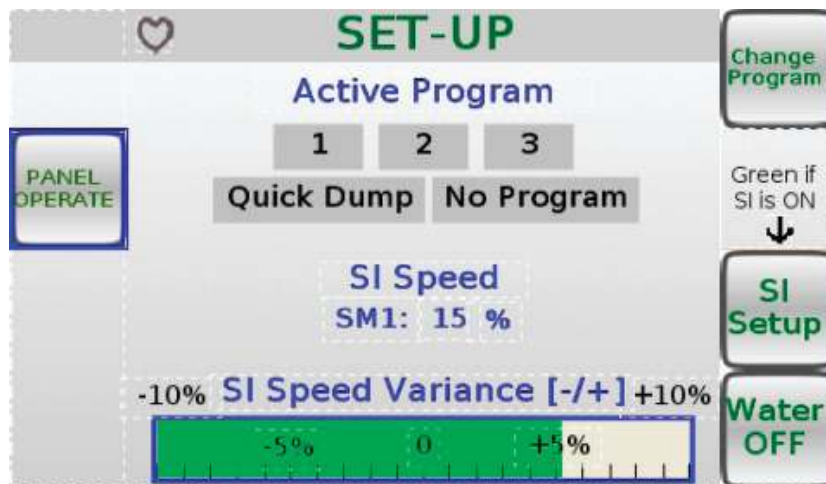

Figure 8
The PANEL OPERATE menu screen can be accessed by pressing the PANEL OPERATE button while in the SET-UP menu screen (see Figure 8). Seed Injection (SI) Speed Variance can be changed in the SET-UP menu screen. Turn the control knob located on the Main Control Panel to either the left or right to decrease or increase the SI Speed Variance. To turn the water control ON or OFF, press the Water ON/OFF toggle button while in the SET-UP menu screen (see Figure 8).
To change your Seed Injection (SI) settings (if equipped), you will need to access the SI menu screen. To access the SI menu screen, you will need to press the SI Setup button, located in the bottom-right of the SET-UP menu screen (see Figure 8). The control knob can be used to change any of the SEED MIX settings (see Figure 11). Turn the knob either left or right to highlight the setting you want to change. Once you have highlighted the setting you want to change, press in on the control knob. After pressing in on the control knob, turn the knob either left or right to either increase or decrease the setting. Once you have changed the setting, press the control knob in to deselect that setting. If you want to save the settings after you have changed them, press the Save button on the right side of the screen.